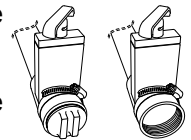

Figure 13.2h
6. Unscrew drain valve cap, Figure 13.2h.